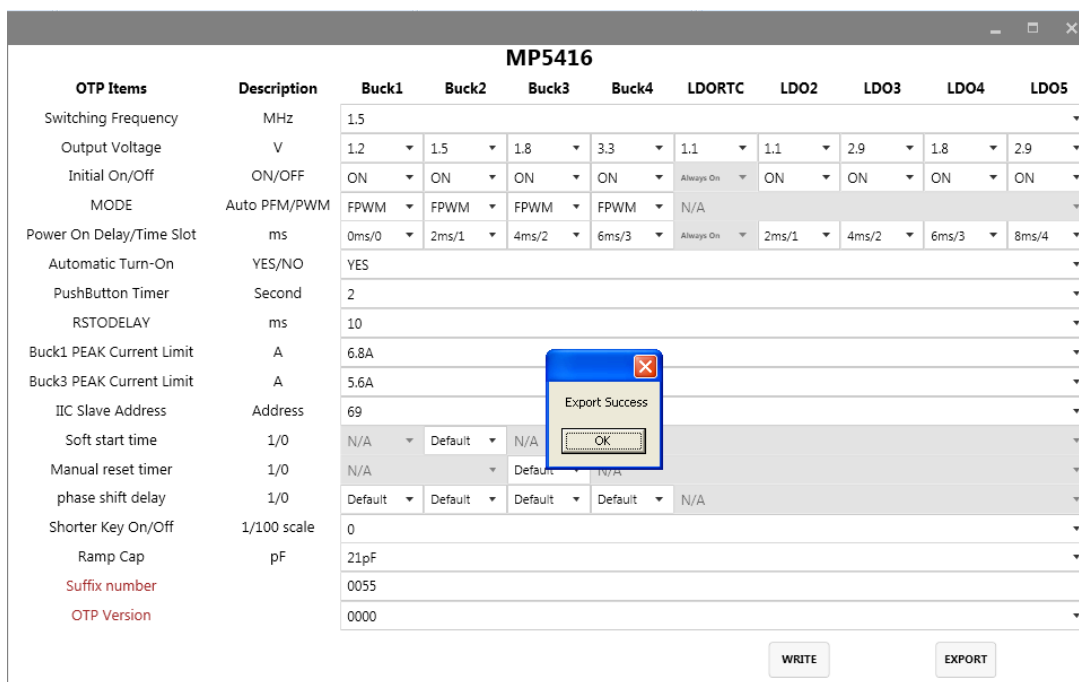

Figure 16: Status Screen Indicates Success
9. Wait for a status screen (see Figure 16).